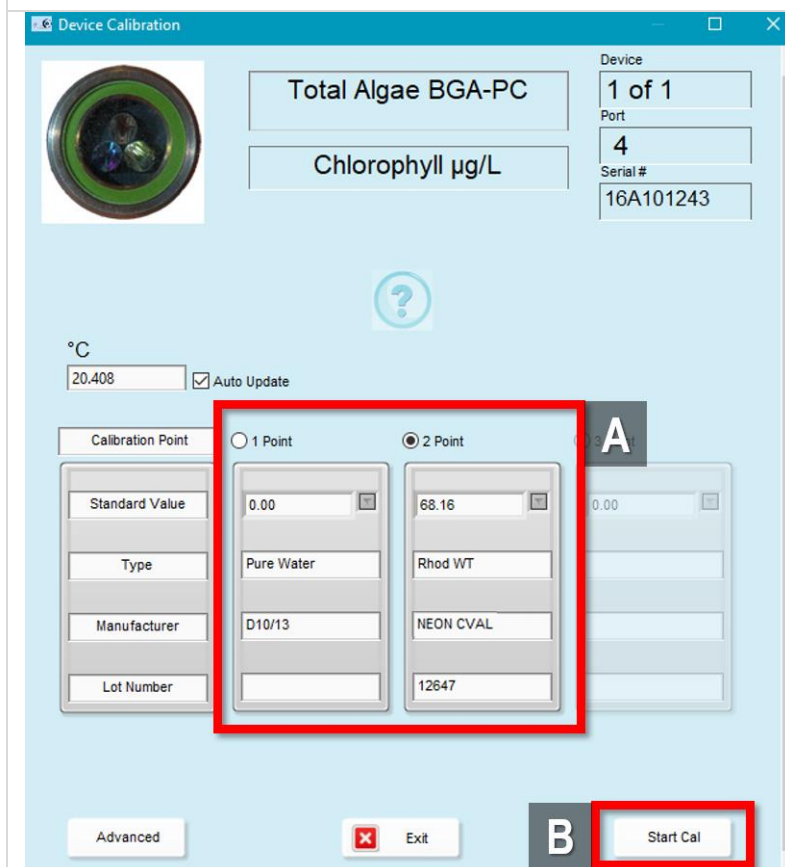

Figure 108. Parameters for a 2-Point Calibration for Total Algae/Chlorophyll
**STEP 3** | In the **Device Calibration** window, input the following information for a 2-point calibration process (A in Figure 108):
Then click **“Start Cal”** (B in Figure 108).